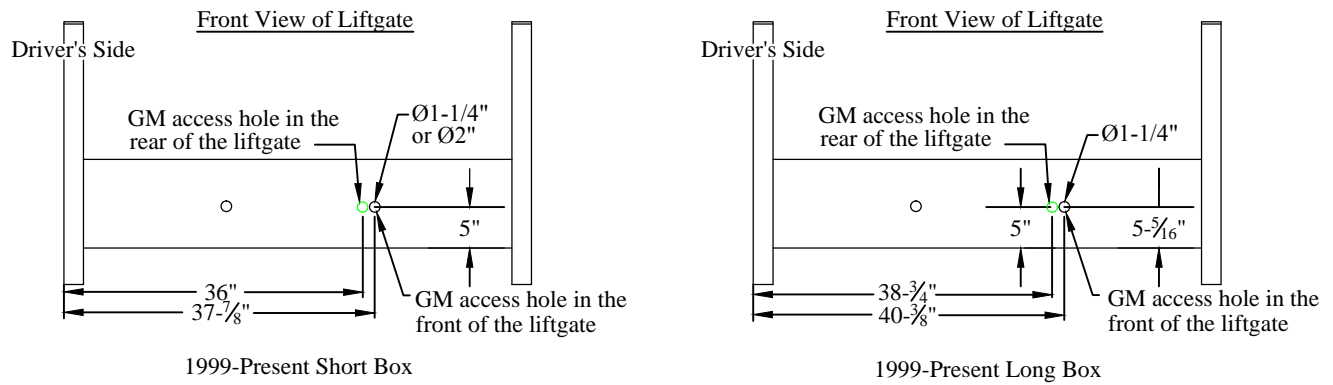

Figure 12: Spare tire access holes.
2. **Mark** two (2) 1/4" hole locations on the truck body using the tube holder as a guide.
3. **Check** for obstructions and **Drill** two (2) 1/4" holes in the positions marked in step 2.
4. **Fasten** the tube holder with the supplied two (2) 1/4"x3/4" bolts and two (2) 1/4" locking nuts.
5. **Remove** and **Discard** the black plastic plug in the rear of the liftgate for spare tire tube access (Figure 12).
2. **Remove** the black plastic plugs for your application (Figure 12).